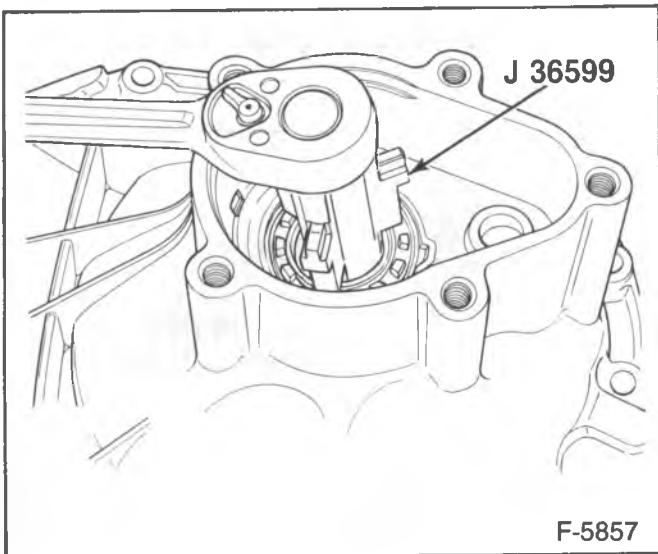
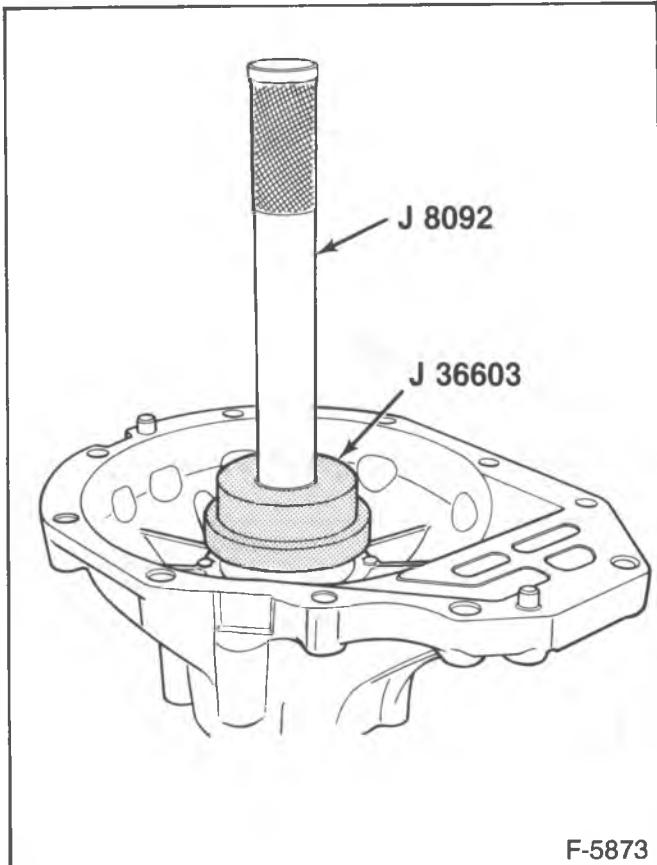

Figure 28—Turning the Adjuster Sleeve
Figure 30—Installing the Side Bearing Cups
2. New O-ring (62) to the adjuster plug (61) (K35 models).
3. Sleeves (32) and/or adjuster plug (61) to the carrier case (29).
- K15-25 models: Use J 36599 (figure 28).
4. Side bearing cups (33). Use J 36603 with J 8092 (figure 30).
- Turn the left sleeve (32) (K15-25 models) or adjuster plug (61) (K35 models) in until backlash is felt between the ring and pinion.
- If the carrier halves do not make complete contact, back out the right sleeve (32). Use J 36599 (figure 28).
7. Bolts (28). Tighten to 47 N·m (35 ft. lbs.).
2. Tighten the right sleeve (32) to 140 N·m (100 ft. lbs.). Use J 36599 (figure 28).
3. Tighten the left sleeve (32) (K15-25 models) or adjuster plug (61) (K35 models) to 140 N·m (100 ft. lbs.).
- Use J 36599 (K15-25 models) (figure 28).